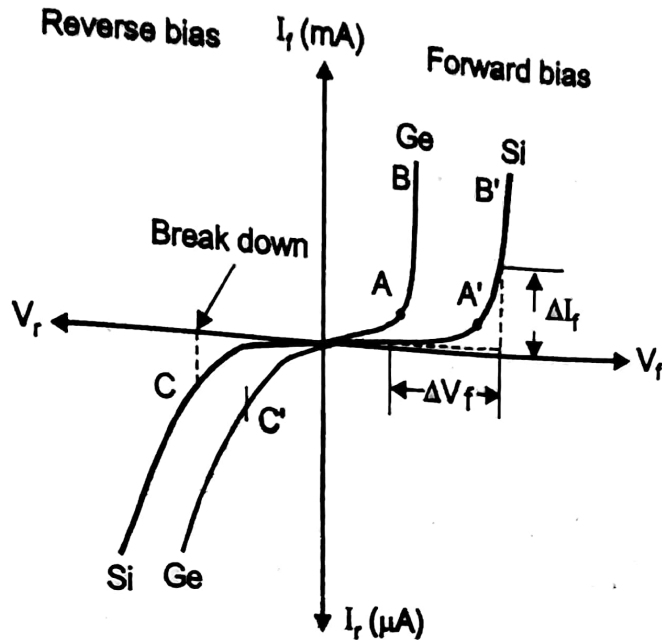

Figure 4.9 V-I characteristics of PN junction diode
Figure 4.9 shows the V-I characteristics of a P-N junction diode.
- Under this condition, a strong depletion region is formed across the junction. It offers very high resistance, thus very small current flows OC and OC' shown in figure 4.9.